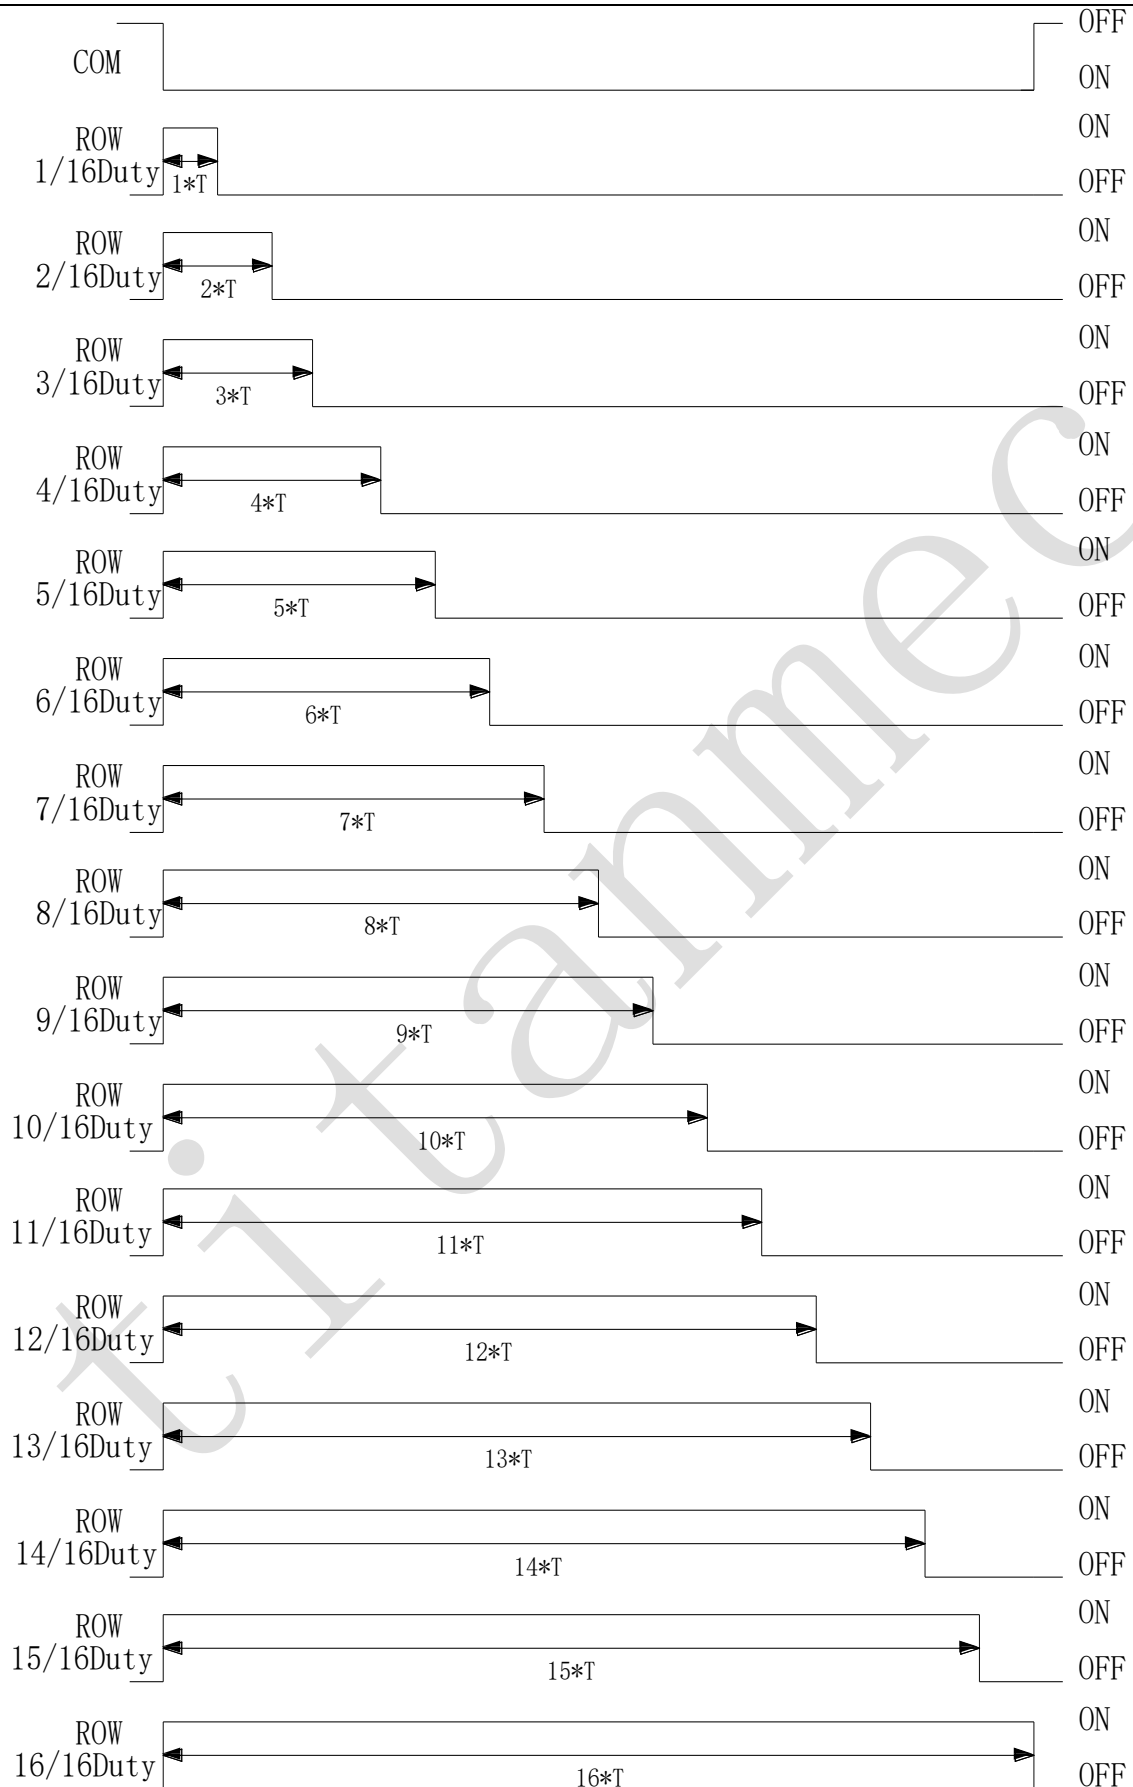

Figure 11
TM1680 can implement a variety of brightness controls by setting PWM drive pulse width at ROW end. The following Figure 11 shows the output waveforms of COM and ROW at different duty cycles: (1) T = 20×Tclk (32×8 driving mode); (2) T = 10×Tclk (24×16 driving mode); (3) Tclk = 1/Fsys